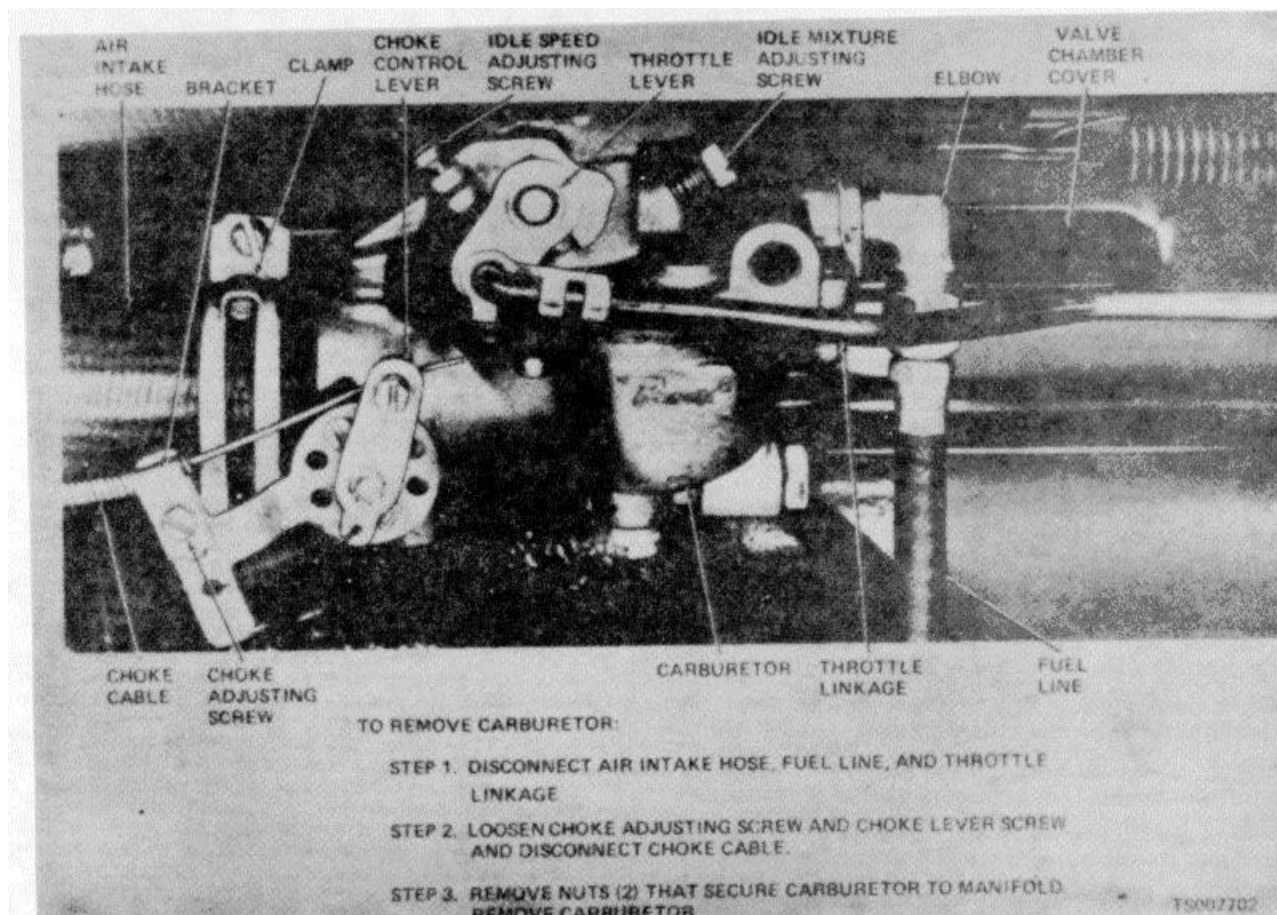

Figure 4-29. Carburetor, Adjustment Points, Removal and Installation
(2) Remove a pipe plug from the intake manifold; install an adapter in the pipe plug hole; connect a vacuum gage to the adapter.
(3) Connect a tachometer to the engine.
(4) Run the engine at fast idle-until it is at operating temperature.
(5) Loosen the choke adjusting screw (fig. 4-29); push the choke control knob all the way in; then pull it out about 1/16-inch. Push the choke control lever as far as possible toward the rear of the fork lift truck; secure the choke adjusting screw against the choke wire.
(2) Remove the carburetor as shown in figure 4-29.
c. *Installation.* Using a new gasket, install the carburetor by reversing the removal procedure given in figure 4-29. Tighten carburetor mounting nuts to 15 to 20 foot-pounds. Adjust carburetor as directed in subparagraph a. above.